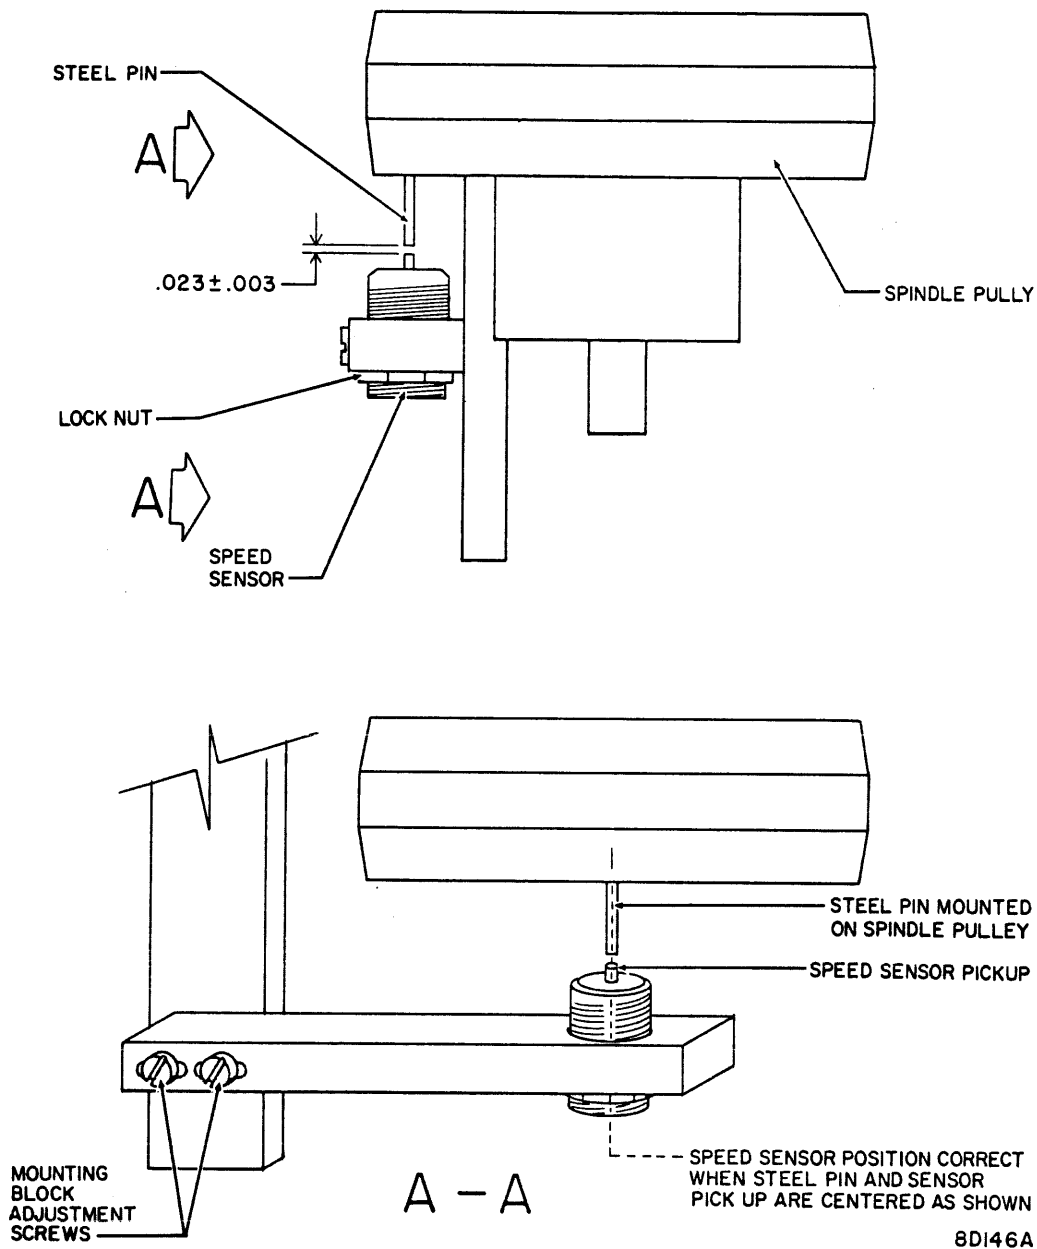

Figure 3-36. Speed Sensor Adjustment
- a. Loosen jam nut on speed sensor assembly, figure 3-36.